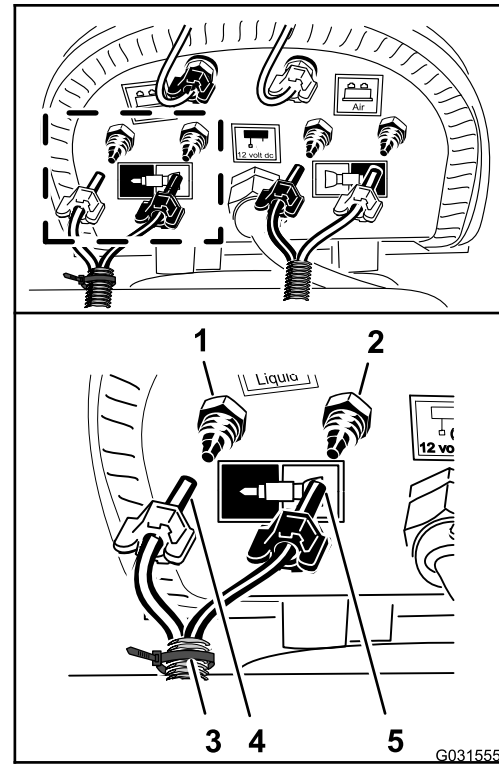

Figure 143
1. Connect the tubing with the cable tie that you prepared in step 9 of Preparing the New Tube Assemblies for the Foam-Marker Nozzles (page 18) by aligning the blue tube for the right spray section onto the compression fitting for the right-spray section water circuit (Figure 143).
2. Assemble the compression nut for the tube onto the fitting and tighten the nut by hand (Figure 143).
3. Aligning the clear tube for the right-spray section onto the compression fitting for the right-spray section air circuit (Figure 143).
4. Assemble the compression nut for the tube onto the fitting and tighten the nut by hand (Figure 143).